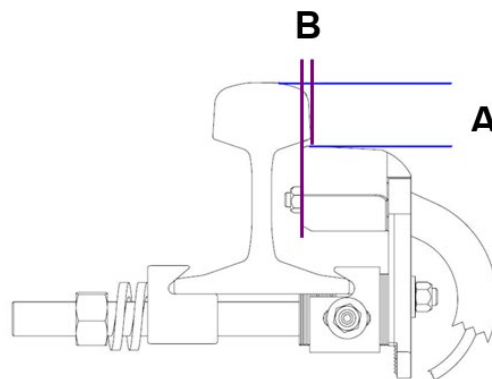

Figure 2 – Maintenance Measurements
3.1 Measure the distance between the wheel sensor top surface and top of rail (distance “A” as shown in Figure 2). This shall be between 40 and 45mm. Adjust height if required. The measurement shall be consistent along the entire length of the wheel sensor.
3.2 Measure the distance between the wheel sensor inside edge and inside edge of the of rail head (distance “B” as shown in Figure 2). The wheel sensor is positioned slightly below and under the head of the rail. The measurement shall be between 0mm and 6mm. Adjust as required. The measurement shall be consistent along the entire length of the wheel sensor.